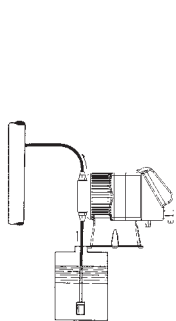
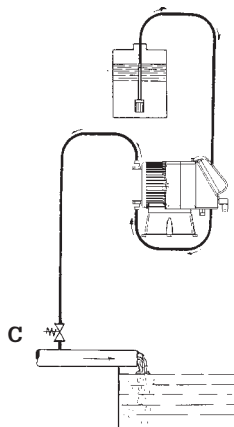

Fig. 5
Fig. 6
- c. - Locate the pump as shown in fig. 5 bearing in mind that it may be installed either below or above the level of the liquid to be dosed, though the level difference should not exceed 2 meters. When the process plant in which the pump is installed is operating at atmospheric pressure (no back pressure) and the chemical tank is situated above the plant (Fig. 6), the condition of the injection valve should be checked at regular intervals, because excessive wear and tear could cause additive to drip into the plant even when the pump is shut down. If the problem persists, install a properly calibrate **counter-pressure valve (C)** between injection point and the valve. In the case of liquids that generate aggressive vapors, do not install the pump above the storage tank unless the latter is hermetically sealed.